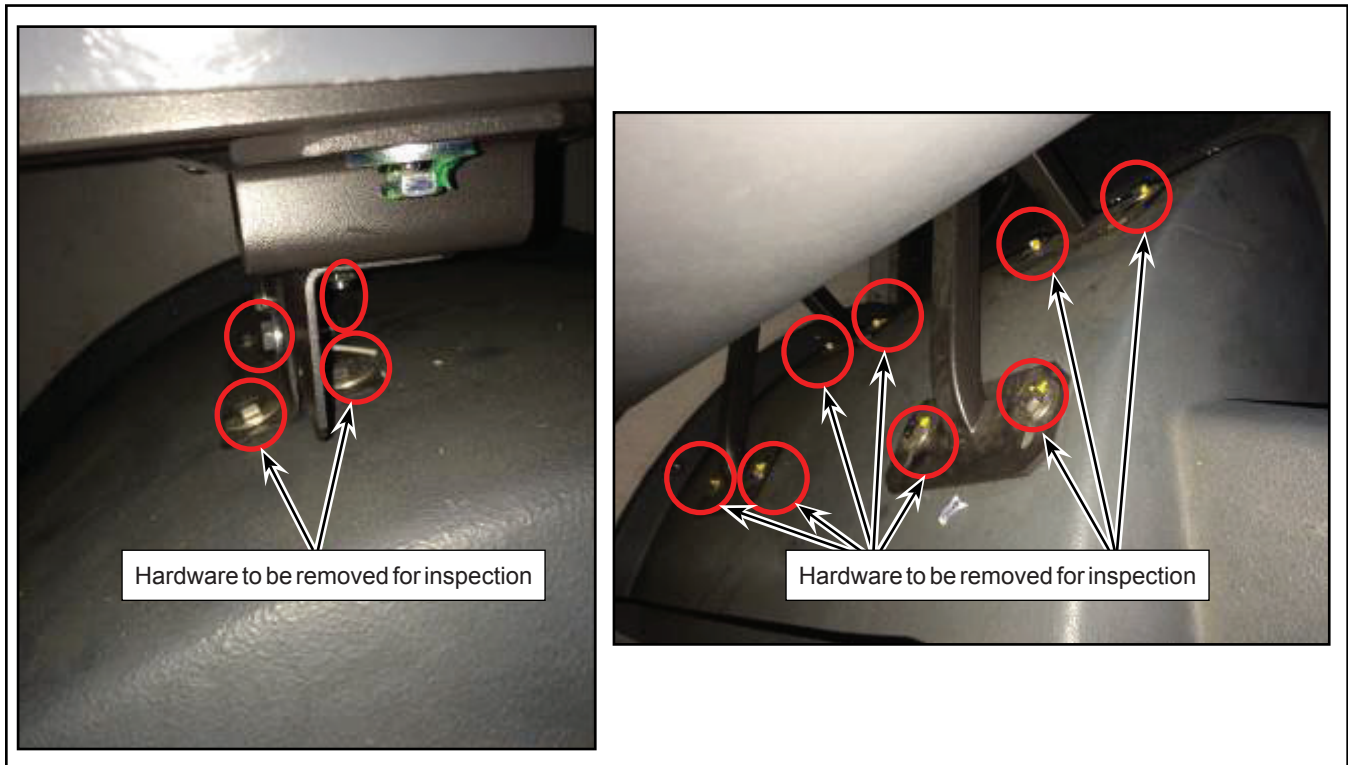

Figure 21 - Typical View of Rear Wheelwell Seats
- 2.14. Remove and inspect the bolts on the rear wheelwell seats one at a time (see Figure 21). If bolts are rusted, stretched or having damaged threads, replace the bolts.